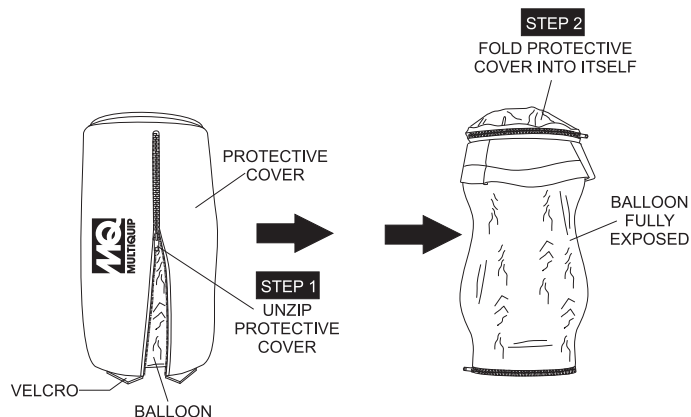

Figure 9. Exposing the Balloon.
4. Expose the balloon by pulling down on the velcro tabs and unzipping the protective cover as shown in Figure 9. Next, fold the protective cover into itself and zip.